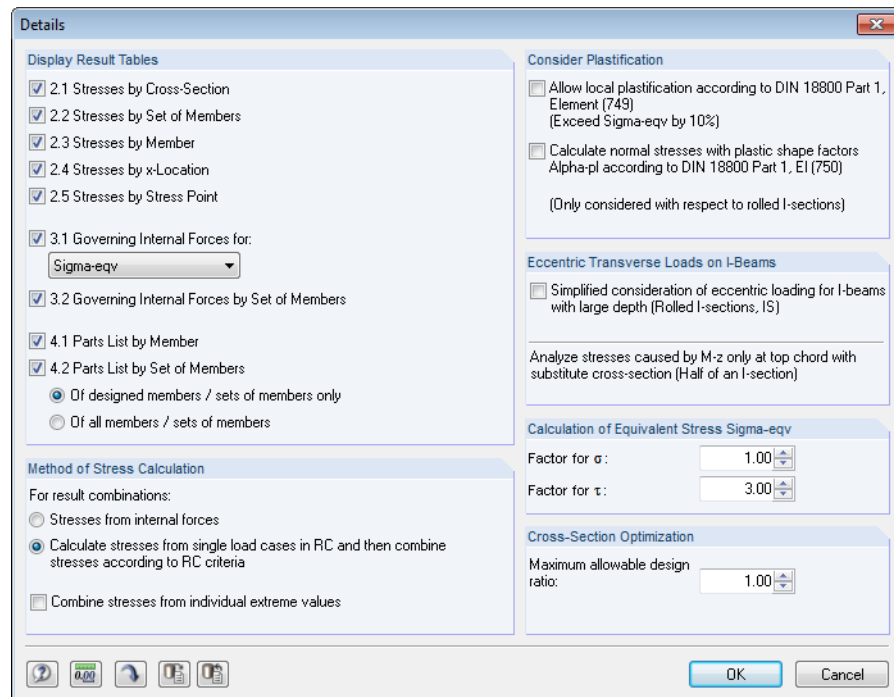

Figure 3.1: Dialog *Details*
You can optimize every cross-section from the library: Search for the cross-section in the same row that comes as close as possible to a user-defined maximum ratio. The maximum ratio can be defined in the dialog box *Details* (see Figure 3.1, page 19).
Factors f_1 and f_2 can be defined in the dialog box *Details* (see Figure 3.1, page 19). The factors $f_1 = 1.0$ and $f_2 = 3.0$ are preset according to DIN 18800 part 1, el. (748).